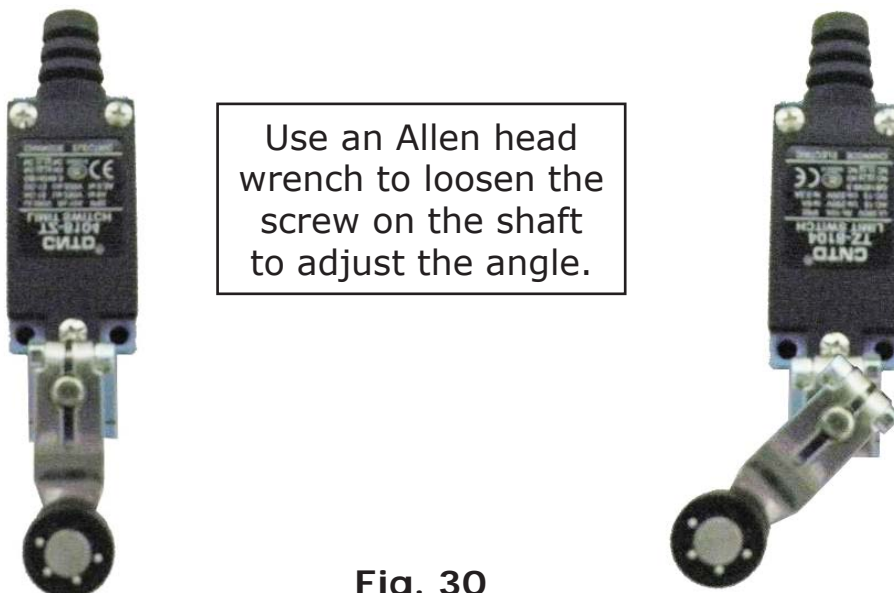

Fig. 30
1. Adjust the angle of the shaft on the limit switch when installed on the column (See Fig. 30).